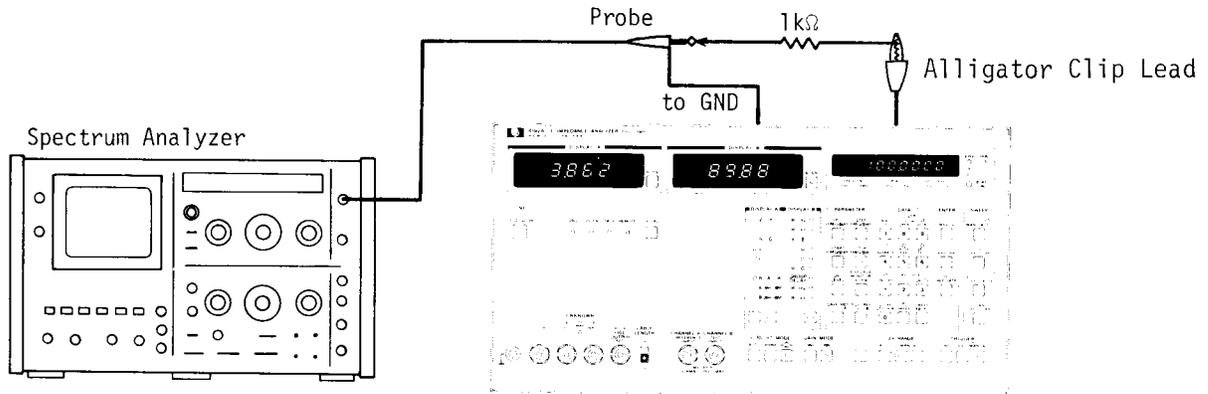

Figure 5-6. A4 S/H 100kHz Spurious Adjustment Setup.
- a. Connect the input of the Spectrum Analyzer to A4TP1 through the $1k\Omega$ resistor as shown in Figure 5-6.